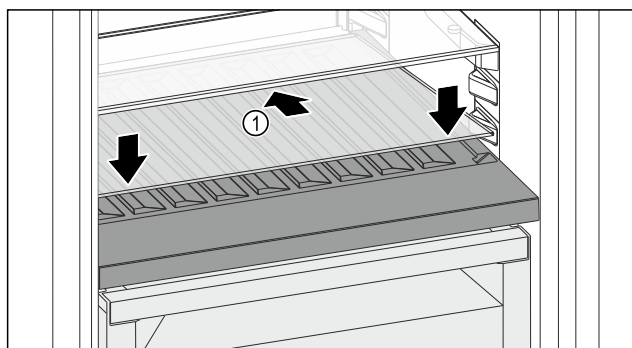

Fig. 207
- Place the glass shelf Fig. 207 (1) at an angle, sloping it downwards and backwards.
- Lower the glass shelf Fig. 207 (1) at the front.